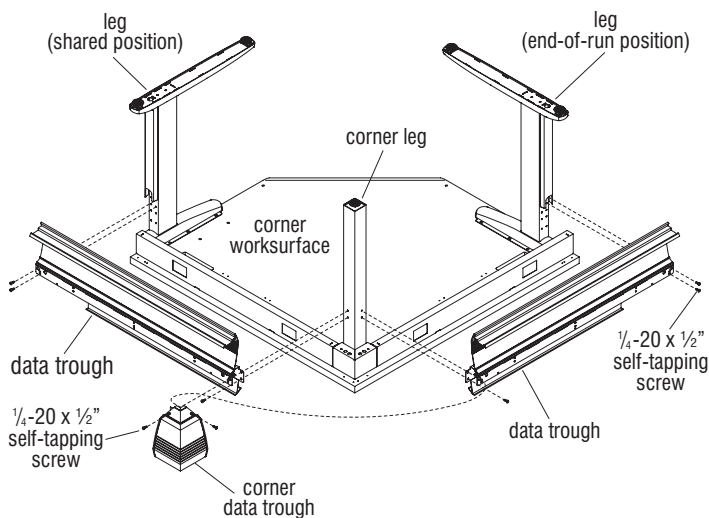

Figure 2
6. Attach the data troughs to the corner worksurface using 1/4-20 x 1/2" self-tapping screws. As illustrated, the corner data trough is attached by using the same screw which is used to attach each data trough to the two different sides of the corner leg. The set of holes used for outside legs will depend on whether the trough is being attached to a shared or end-of-run leg (Figure 2).